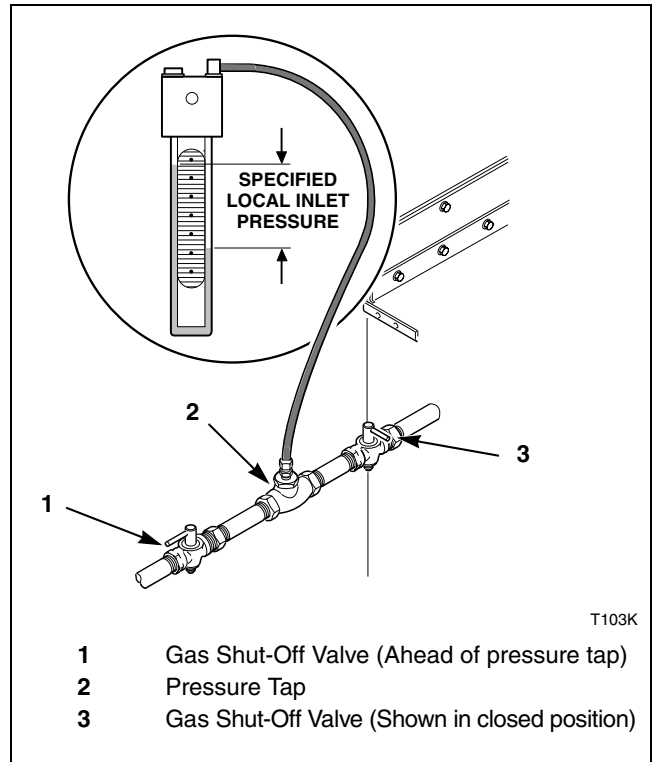

Figure 9
1. Disconnect electrical power from tumbler. Close gas shut-off valve to tumbler. Refer to *Figure 9*.